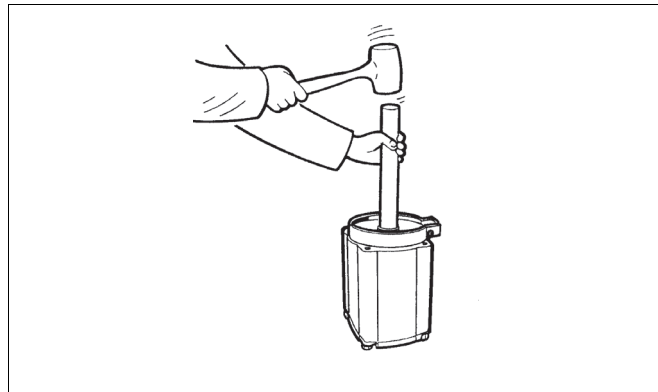

Fig. 19 Placing the piston in the cylinder
- Knock or press the piston through the tie ring with a press, Fig. 19.
- Mount the O-ring (19) and the cylinder and piston. Note the location of the air inlet: use the air inlet of the cylinder base as a guide. Tighten the screws (31). See Table 3 for torques.